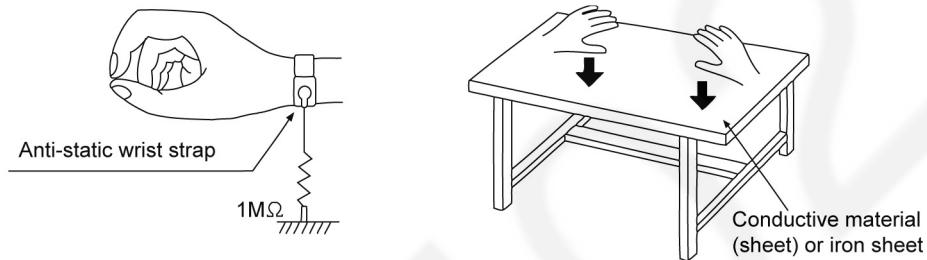

Figure 2
1. Put a conductive material (sheet) or iron sheet on the area where the optical pickup is placed, and ground the sheet (Figure 2).
1. Use the anti-static wrist strap to discharge the static electricity form your body (Figure 2).